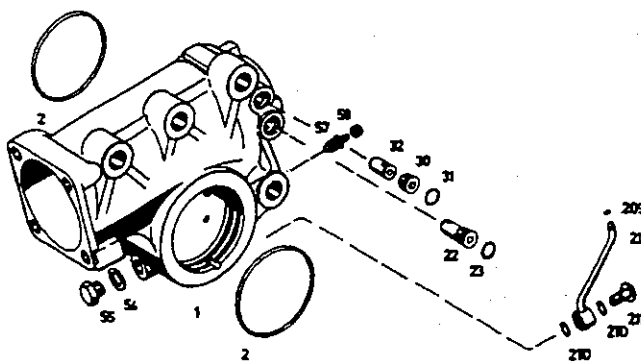

Fig.19
- 1.1 Screw in valve insert (22) - pressure limiting valve - with preassembled O-ring (23) (tightening torque: 30+10 Nm) (Fig.19).